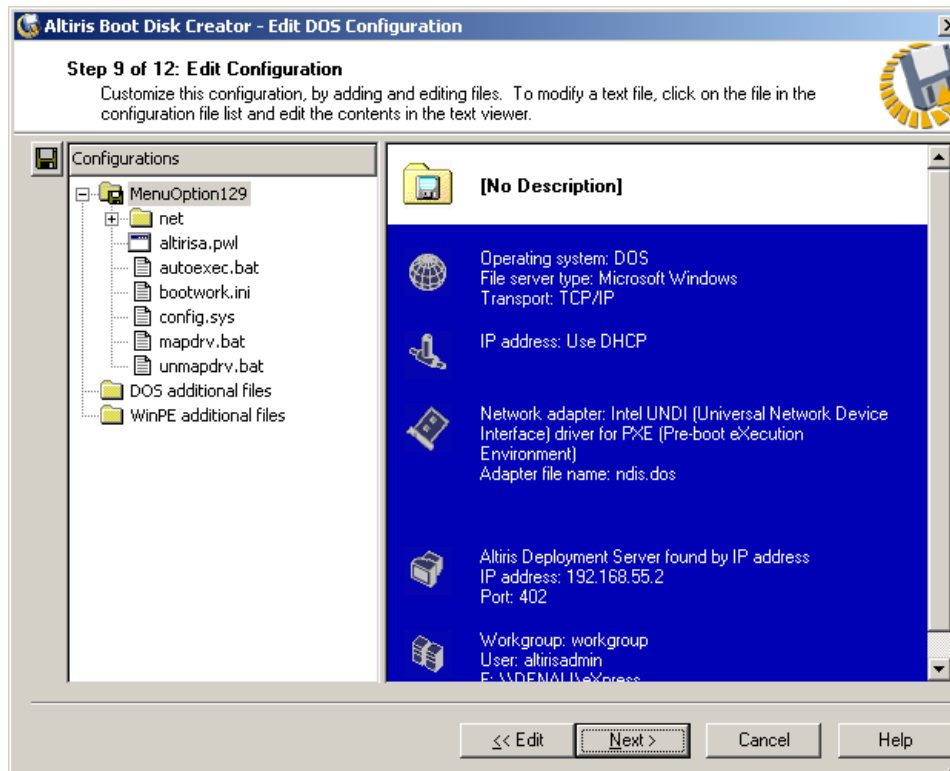

Figure 6-12 The Altiris Boot Disk Creator
4. Click **Edit Boot Image** to open the Boot Disc Creator tool shown in Figure 6-12 on page 185.
14. Click **Next** to bypass the Configuration Summary window. This will return you to the window shown in Figure 6-12 on page 185.